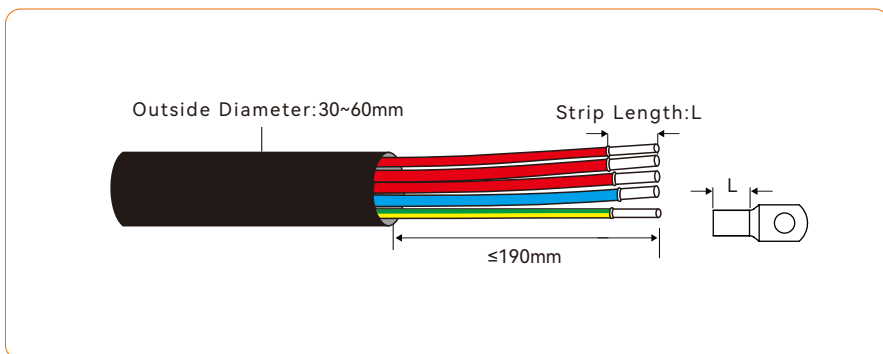
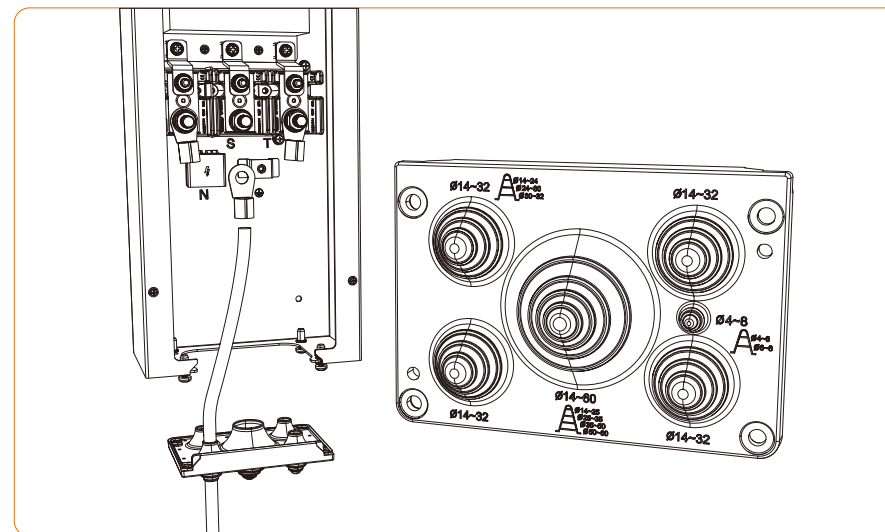

Figure 4-20
Figure 4-21
② Put the cable through the cable gland, and strip off the outer insulation sheath < 190mm, according to the size of OT/DT terminals to peel off a proper length of the 3L /PE N wires, then insert the conductor core into the OT/DT terminals and press with a hydraulic clamp. As shown in Figure 4-20:
③ Select the appropriate threading hole on the wiring board based on the wire type. Align and cut the opening with scissors according to the corresponding wire diameter indicated beside each hole. Then thread the cable through the wiring board and connect it sequentially to terminals R, S, T, and N, as illustrated in Figure 4-20 and Figure 4-21.